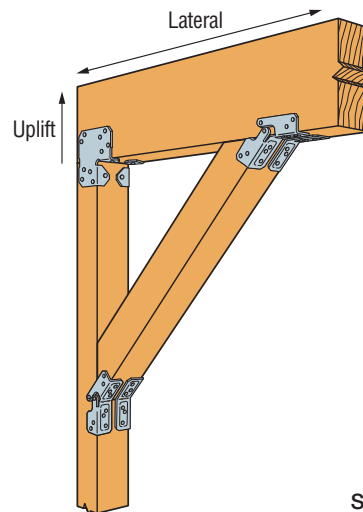
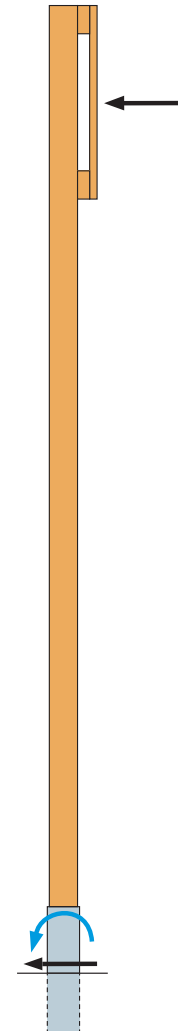

Figure 2 — Typical LCE Post Cap Installation with Knee Bracing
Figure 3 — Non-Top-Supported Post with MPBZ Moment Post Base
- Except for the MPBZ moment post base, post bases do not provide adequate resistance to prevent members from rotating about the base and are therefore not recommended for non-top-supported installations (such as fences or unbraced carports). The top of the post must be restrained from moving horizontally by some other means, e.g., by tying the roof into a supporting structure or by adding knee bracing between the posts and beams. (Figure 2) Alternatively, see the MPBZ on pp. 80–81 for a post base that provides moment resistance for columns or posts. (Figure 3)
- Allowable lateral loads for post caps can only be achieved if one of the members, the post or beam, is supported laterally by other means. (Figure 2) For applications involving lateral load transfer from the beam to the column, the column must be designed to receive the load without rotating about its base (e.g., cantilevered out of the ground, diagonally braced, or connected at the base with a moment-resisting connector like the MPBZ post base).